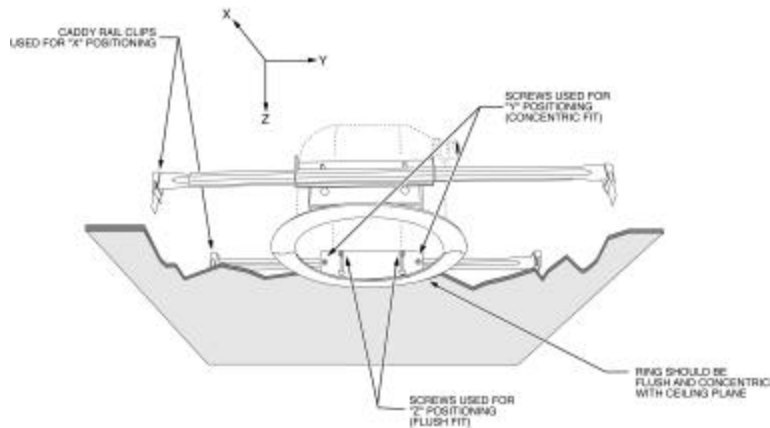

Figure 5B
5. With the ring concentric with the hole, slide the ring vertically along the support slots to obtain the best flush fit in the ceiling. The ring should be firmly seated against the tile without warping the tile. Refer to Figure 5B.